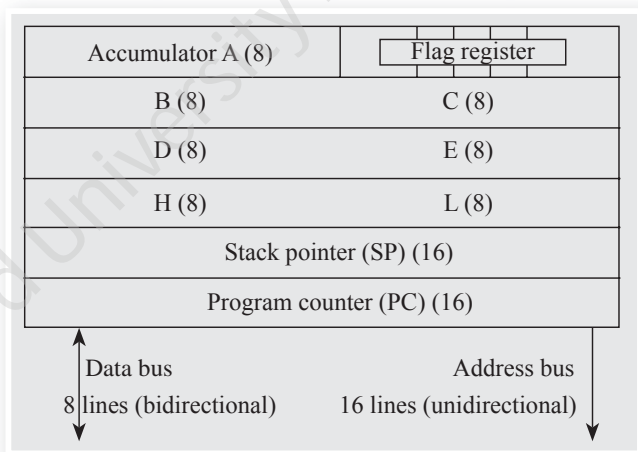

Fig. 1.6 Registers of Intel 8085
Registers B, C, D, E, H, and L are the general-purpose registers in the 8085, as shown in Fig. 1.6. They can also be called scratchpad registers. In almost all arithmetic and logical operations, these registers are used as the second operands, the first operand being the accumulator (A). The general-purpose registers are all 8-bit registers but they can be handled as 16-bit registers as well. This can be achieved by combining the register pairs B and C, D and E, and H and L to perform 16-bit operations.